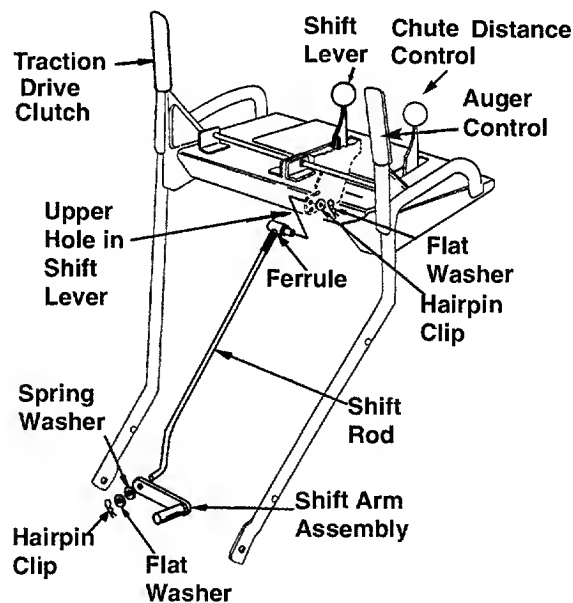

FIGURE 5
- Place the shift lever in the sixth (6) speed position.
- Place the bent end of the shift rod into the hole in the shift arm assembly. See figure 5. Secure with spring washer, 5/16 flat washer and hairpin clip.